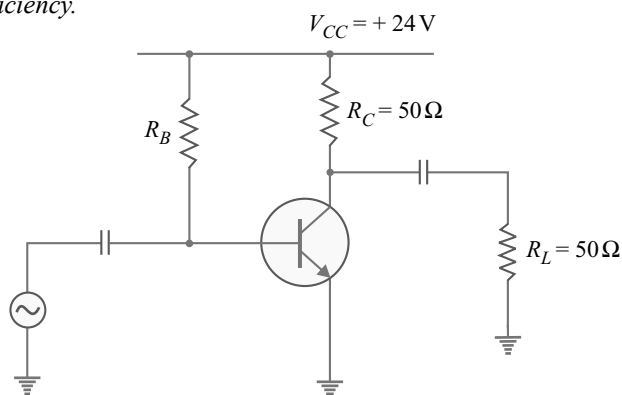

Fig. 10.15
**Example 10.11.** The class A transistor amplifier shown in Fig. 10.15 is biased at  $V_{CE} = 12 \text{ V}$ . The output voltage is maximum possible without distortion. Find (i) average power drawn from the d.c. supply (ii) a.c. power delivered to the load (iii) power efficiency and (iv) collector efficiency.